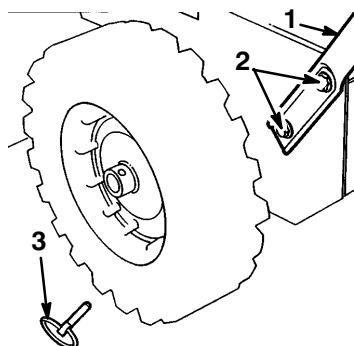

Figure 2
2. Remove the axle pins from both wheels and slide the wheels outward on the axle approximately one inch (2.5 cm) to make room for assembling the handles (Fig. 2).
5. Align the left handle mount holes with the holes in the left side plate, and secure the handle with two capscrews and curved washers until they are finger tight (Fig. 2).